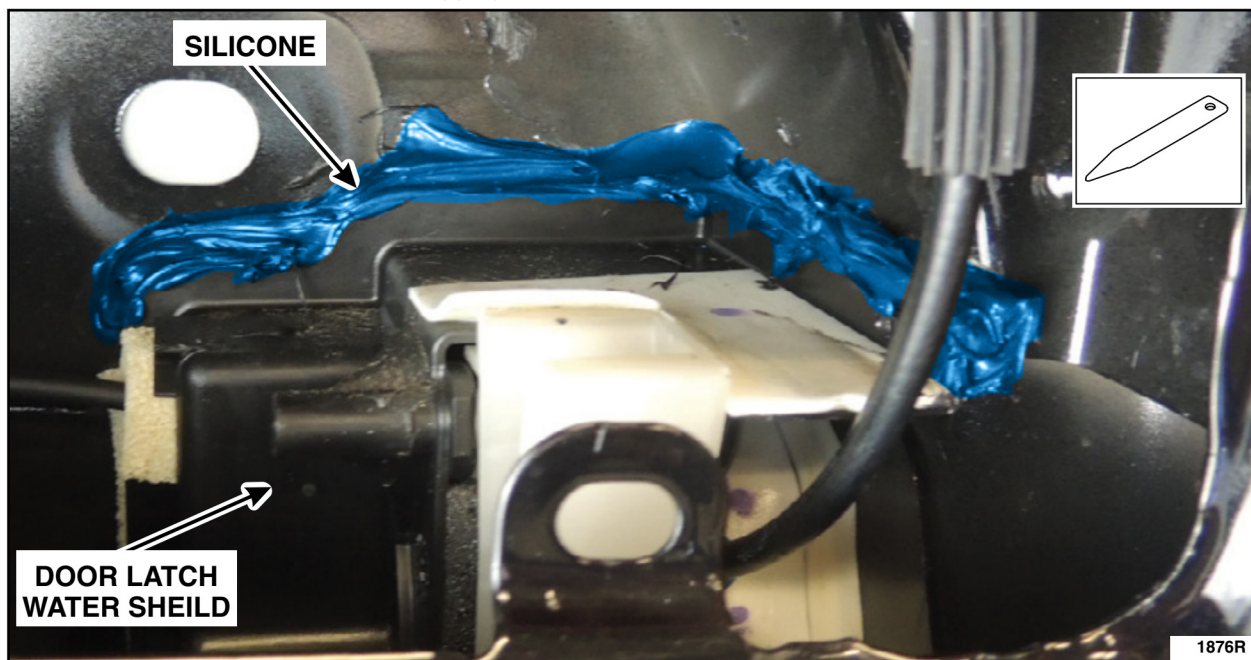

FIGURE 35
7. If the silicone shown in Figure 35 is present, using a flat bladed trim tool or equivalent, separate the rear door latch water shield from the inner door panel by pushing the trim tool between the silicone and the inner door panel. See Figure 35.
13. If the silicone shown in Figure 35 was present, remove any residual silicone and clean the inner door panel at the water shield area. Then, remove the shop towels containing the debris from inside the door panel.